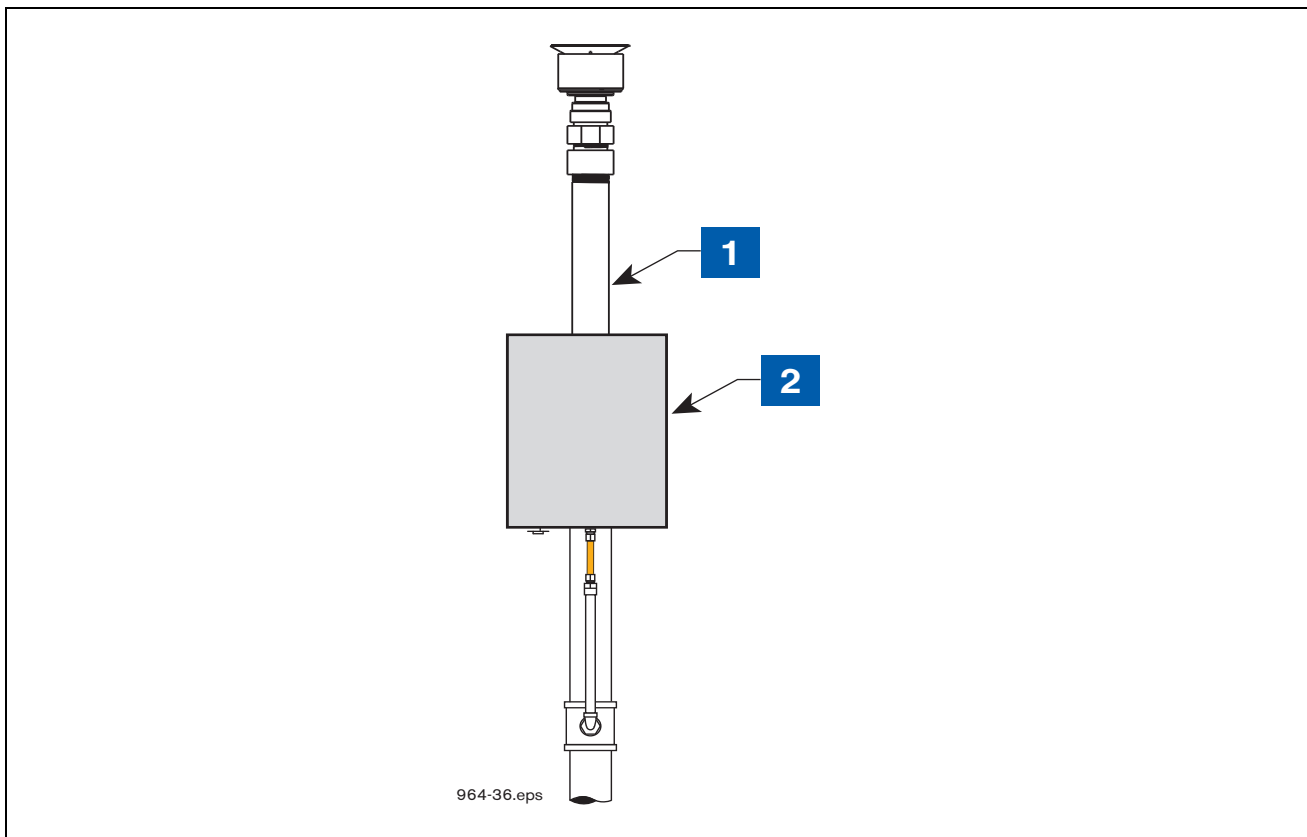

Figure 22. VRPS Mounted In Universal Enclosure On The Vent Stack
1. A Transmitter/battery pack pair must be installed with the Veeder-Root Vapor Return Pressure Sensor (VRPS) in the Universal Enclosure and mounted on the vent stack (see Figure 22).
LEGEND FOR NUMBERED BOXES IN Figure 22